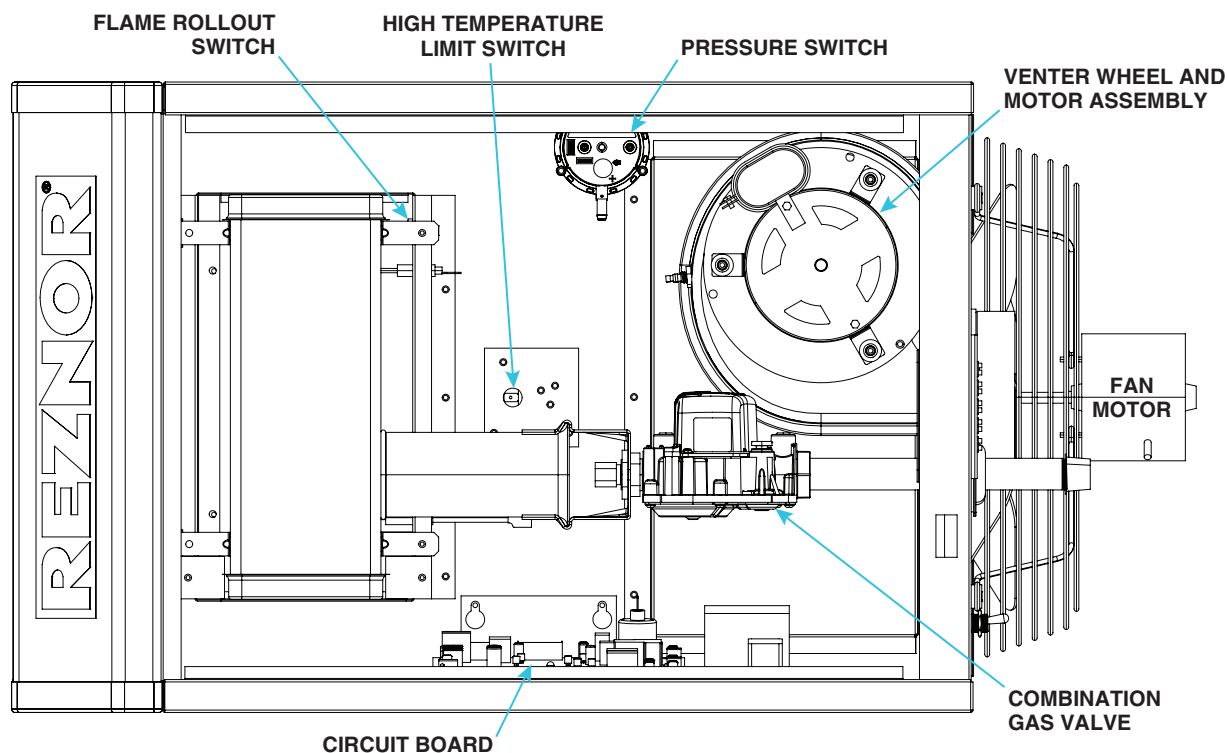

Figure 20. Control Locations (Typical)
- The pressure (combustion air proving) switch (see Figure 20) is a pressure-sensitive switch that monitors air pressure to ensure that proper combustion airflow is available.
All units are equipped with a temperature-activated, automatic-reset high temperature limit switch (see Figure 20). The switch is factory-set and is non-adjustable. If the setpoint is reached, the switch interrupts the electric supply to the combination gas valve. This safety device provides protection in the case of motor failure or lack of airflow due to a restriction at the inlet or outlet.
The venter motor is assembled to the venter wheel (see Figure 20) and operates to provide combustion airflow. Operation is controlled by the circuit board (refer to Circuit Board \(DSI Control Module\) section).
Unit sizes 30–125 of model UDXC are equipped with a temperature-activated, manually-reset flame rollout switch (see Figure 20). The switch, located behind the top burner body support, is factory-set and is non-adjustable. If the setpoint is reached, the switch interrupts the electric supply to the gas valve. If the flame rollout switch activates, identify and correct the cause before resetting the switch.
The combination gas valve (see Figure 20) is powered by the 24V control circuit through the thermostat and safety controls. The diaphragm-type valve is pre-set at the factory and provides regulated gas flow.
The fan motor (see Figure 20) is equipped with automatic-reset thermal overload protection. If the motor does not run, the cause may be due to improper current. Ensure that the correct voltage is available at the motor.
The heater's ignition system is controlled by a circuit board (see Figure 20), a Direct-Spark Integrated (DSI) control module (see Figure 10), that monitors the safety devices and controls the operation of the fan and venter motors and the combination gas valve between heat cycles. The module's Seven-Segment Display (SSD) is visible through a viewport on the access door panel. In addition, there is a status LED on the bottom of the heater. Its status indications are **off** (heater is not powered or control board fault), **steady on** (heater is on with no faults), or **flashing** (heater is on with fault(s)). Additional status indications appear on the display at the bottom of the control module (labeled as DSP1, see Figure 10). The display's codes are listed and described in the Unit Troubleshooting Using DSI Control Module section.